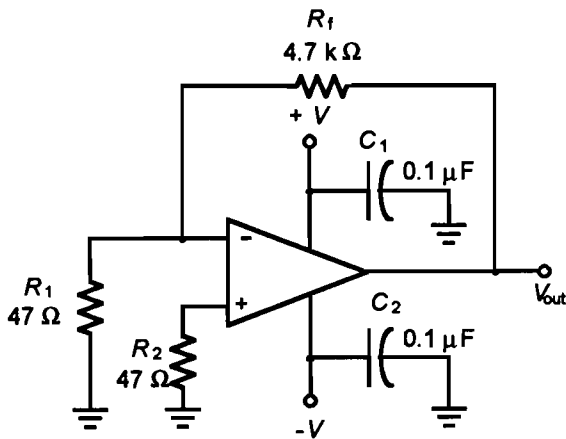

Figure 43.1
1. Construct the circuit of Figure 43.1. Ensure that the supply voltage + is connected to the V+ pin and that the supply voltage - is connected to the V- pin. (Note: These are not the input + and - of the op-amp.) Set the DC supply to provide +15 V to V+ and -15 V to V-.